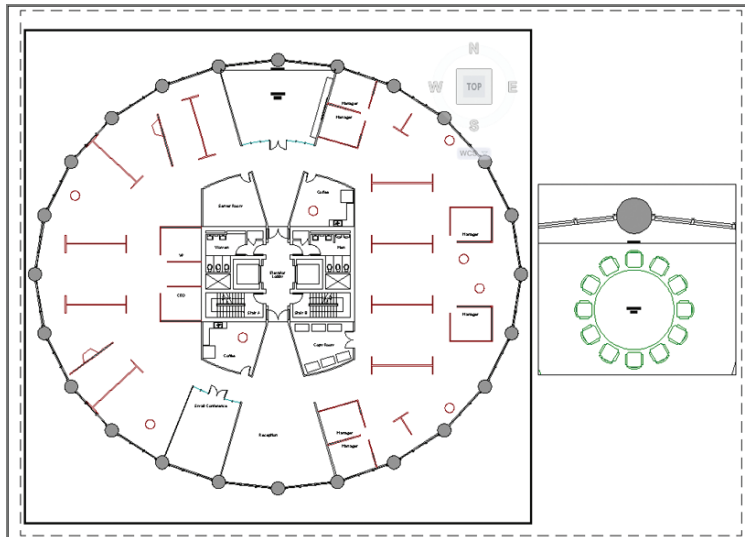

FIGURE 13.20 Furniture is visible in the viewport on the right but not in the left viewport, whose layer properties have been overridden.
5. Double-click on the paper outside the viewport to switch back into paperspace. The furniture and furniture systems disappear from the current viewport, but the Conference Room round table is still visible in the viewport on the right of Layout2 (see Figure 13.20). Close the Layer Properties Manager.